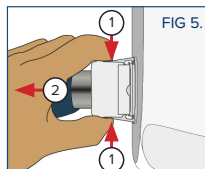

FIG 5.
- Disconnect the umbilical cord from the power unit by squeezing the two tabs and pulling away (FIG 5).